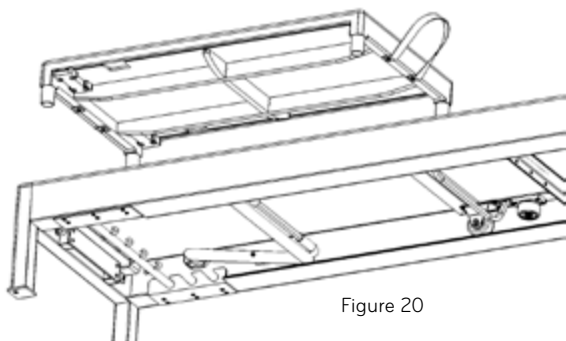

Figure 20
5. Lift and install the Mat Conversion inside the frame. There are (2) cutouts on the underside of the mat to clear the footbar pivots, ensure these are on the foot end of the machine when installing. See Figure 20 for reference